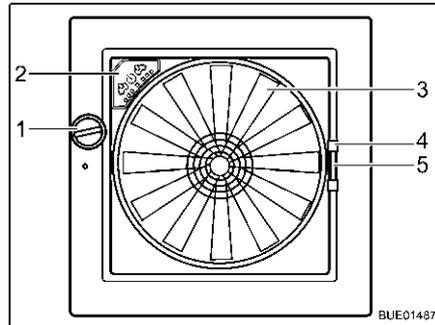

Fig. 89 Skylight Omni-Vent
**Opening:** ■ Turn the knob (Fig. 89,1) until the desired opening angle is reached.
**Closing:** ■ Turn the knob (Fig. 89,1) until the skylight is fully closed.
**Closing:** ■ Using the handle (Fig. 89,4) pull the insect screen across to the other side of the frame.
**Closing:** ■ Press together the handle (Fig. 89,5) of the shade.
**Fan** If the skylight is open, the interior can be ventilated with the 6-speed fan (Fig. 89,3). The fan is operated via the operating panel (Fig. 89,2).